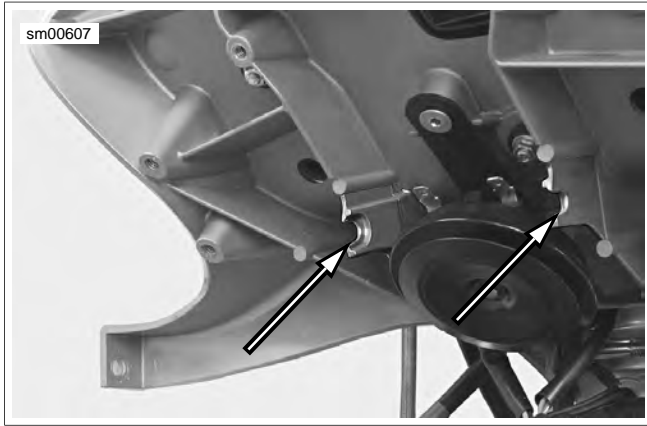

Figure 2-141. Headlamp Pivot Groove: Firebolt
1. See Figure 2-141. Position headlight pivot fasteners into groove of the headlight support bracket, flat side of nut lined up with groove.